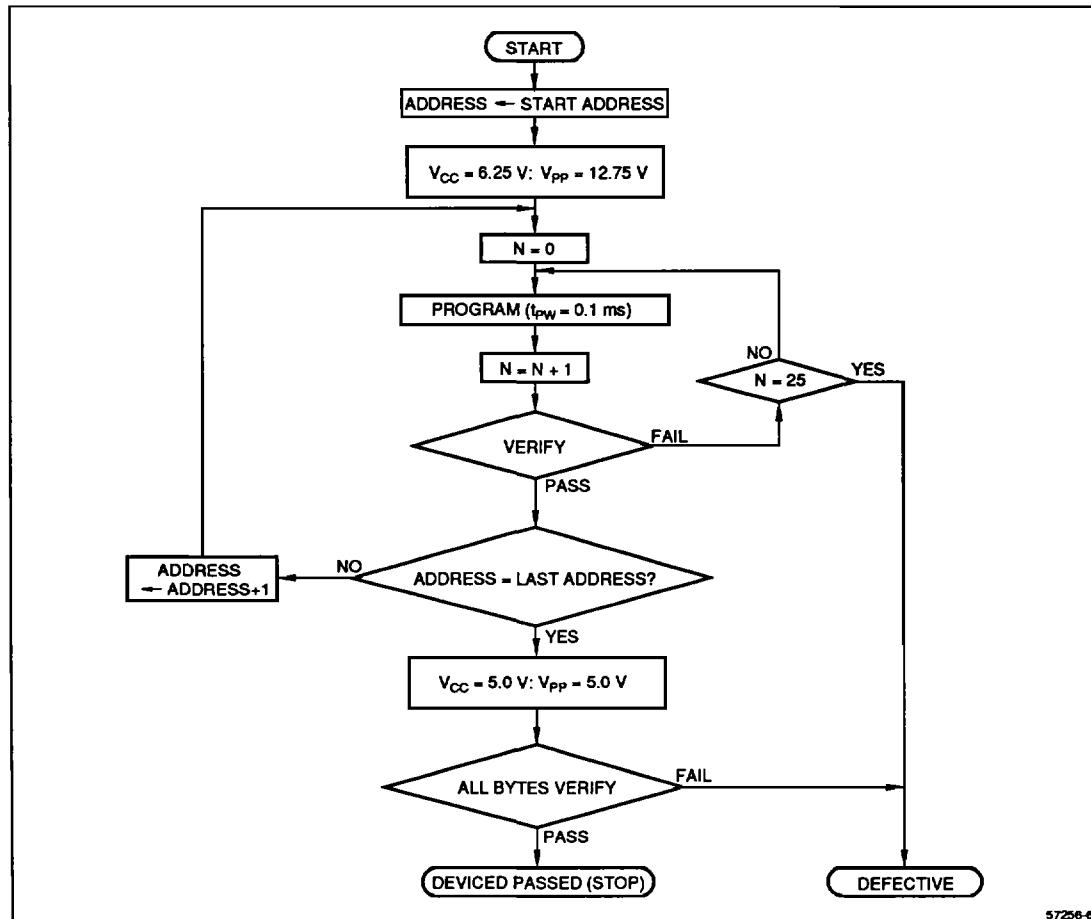

Figure 6. Programming Flowchart
2. This width is defined by the Program Flowchart (Figure 6).